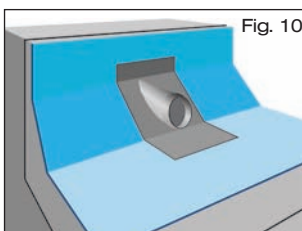

Fig. 10
- 2.3 Unroll the first layer of the **roof sealing sheet** sheet over the scupper drain, and make a cut-out in the region of the bonding flange (Fig. 10).